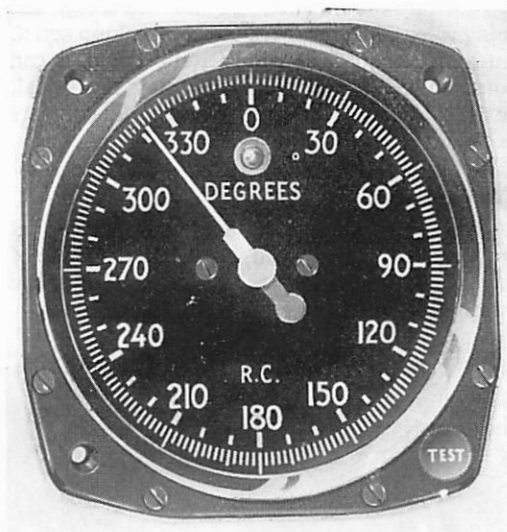

Fig. 2.
8. *Pilot's Bearing Indicator.* The pilot's bearing indicator (Fig. 2) is a direct-reading instrument which indicates the position of the loop relative to the aircraft's fore and aft axis. A neon signal lamp, fitted behind a hole in the indicator, is normally obscured by an opaque shutter linked to the TEST switch. Rotation of this switch moves the shutter aside and the neon lamp gives an indication whenever the receiver is tuned to an incoming signal.